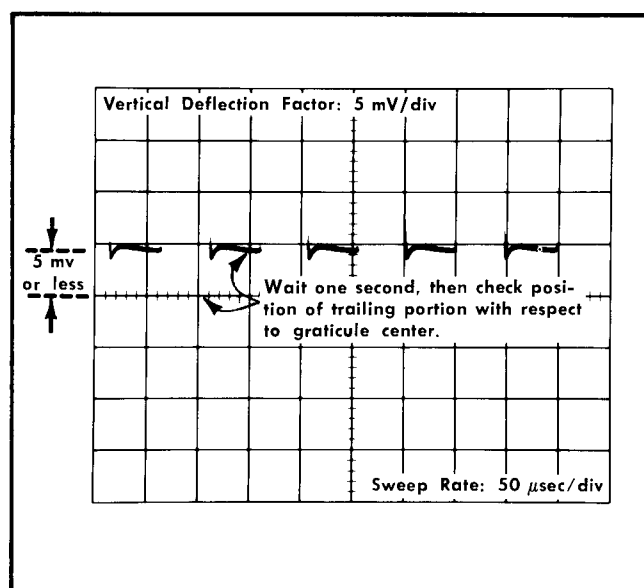

Fig. 5-30. Checking input B overdrive dc shift.
d. Set the input B AC-DC-GND switch to DC. Wait one second and check the position of the display. The trailing portion of each cycle should be within 5 mV (1 div) or less from graticule center (see Fig. 5-30).